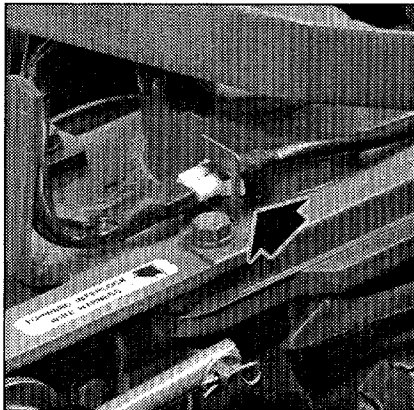

Figure 4-6: Plug and receptacle of Forward Interlock Safety System must be securely connected.
2. Check that the Forward Interlock wire harness plug, at the bottom of the handlebars (Figure 4-6), is securely connected to the receptacle on the top, right side of the transmission.